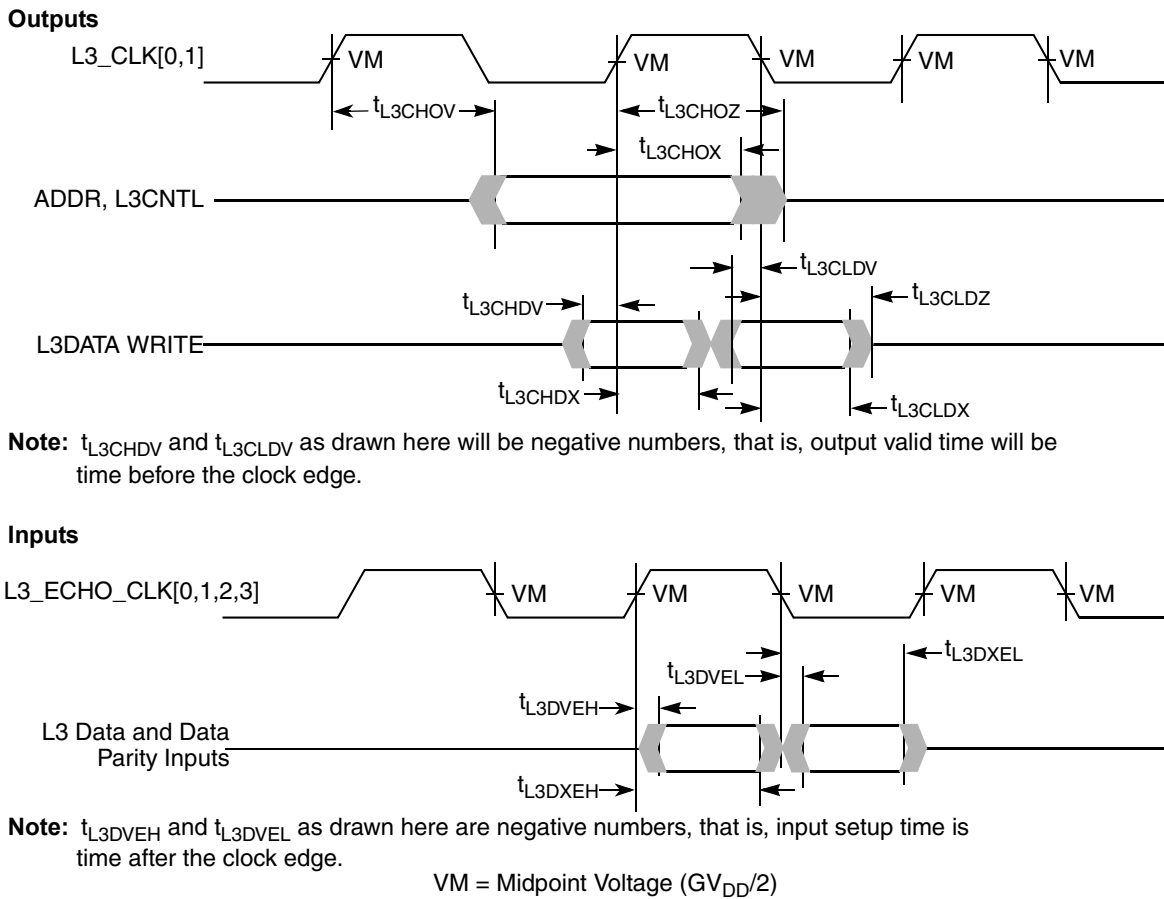

Figure 10. L3 Bus Timing Diagrams for L3 Cache DDR SRAMs
Table 13 provides the L3 bus interface AC timing specifications for the configuration as shown in Figure 9, assuming the timing relationships shown in Figure 10 and the loading shown in Figure 8.
2. For DDR, all input specifications are measured from the midpoint of the signal in question to the midpoint voltage of the rising or falling edge of the input L3\_ECHO\_CLK $n$  (see Figure 10). Input timings are measured at the pins.
3. For DDR, the input data will typically follow the edge of L3\_ECHO\_CLK $n$  as shown in Figure 10. For consistency with other input setup time specifications, this will be treated as negative input setup time.
6. For DDR, the output data will typically lead the edge of L3\_CLK $n$  as shown in Figure 10. For consistency with other output valid time specifications, this will be treated as negative output valid time.
Figure 10 shows the L3 bus timing diagrams for the MPC7457 interfaced to MSUG2 SRAMs.
3. All input specifications are measured from the midpoint of the signal in question to the midpoint voltage of the rising edge of the input L3\_ECHO\_CLK $n$  (see Figure 10). Input timings are measured at the pins.
4. All output specifications are measured from the midpoint voltage of the rising edge of L3\_CLK $n$  to the midpoint of the signal in question. The output timings are measured at the pins. All output timings assume a purely resistive 50- $\Omega$  load (see Figure 10).